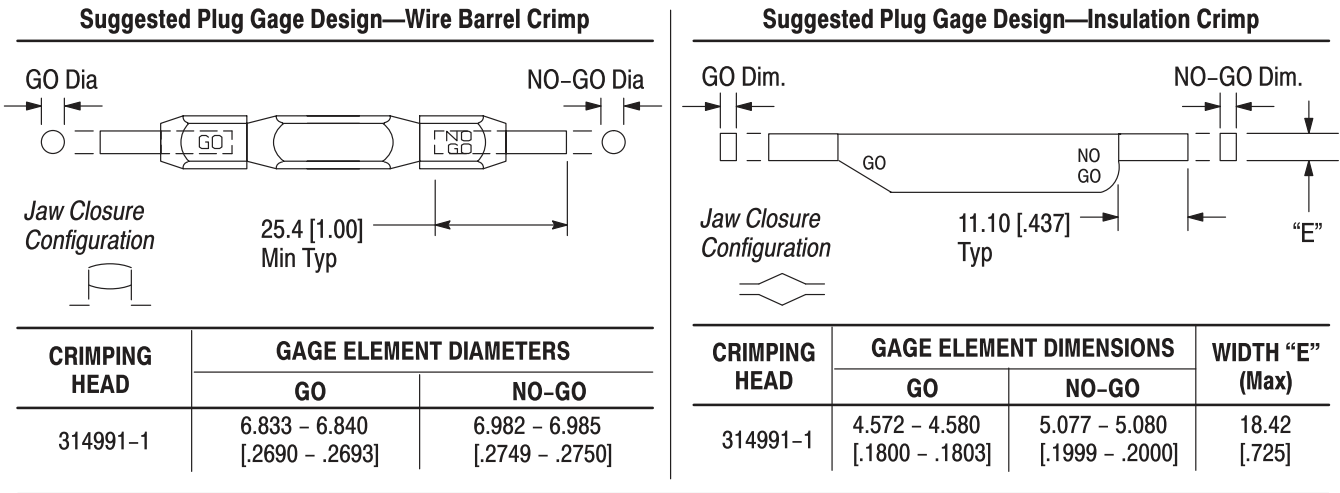

Figure 6
This inspection requires the use of plug gages conforming to the dimensions shown in Figure 6. Tyco Electronics does not manufacture or market these gages.
- Changed orientation of Figure 6 to aid text flow in document.